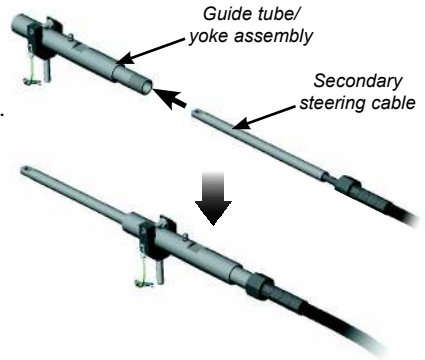

Fig B21 - Fitting the secondary steering cable to the guide tube
- ii) Insert the rod end of the secondary steering cable into the threaded end of the guide tube (Fig B21).